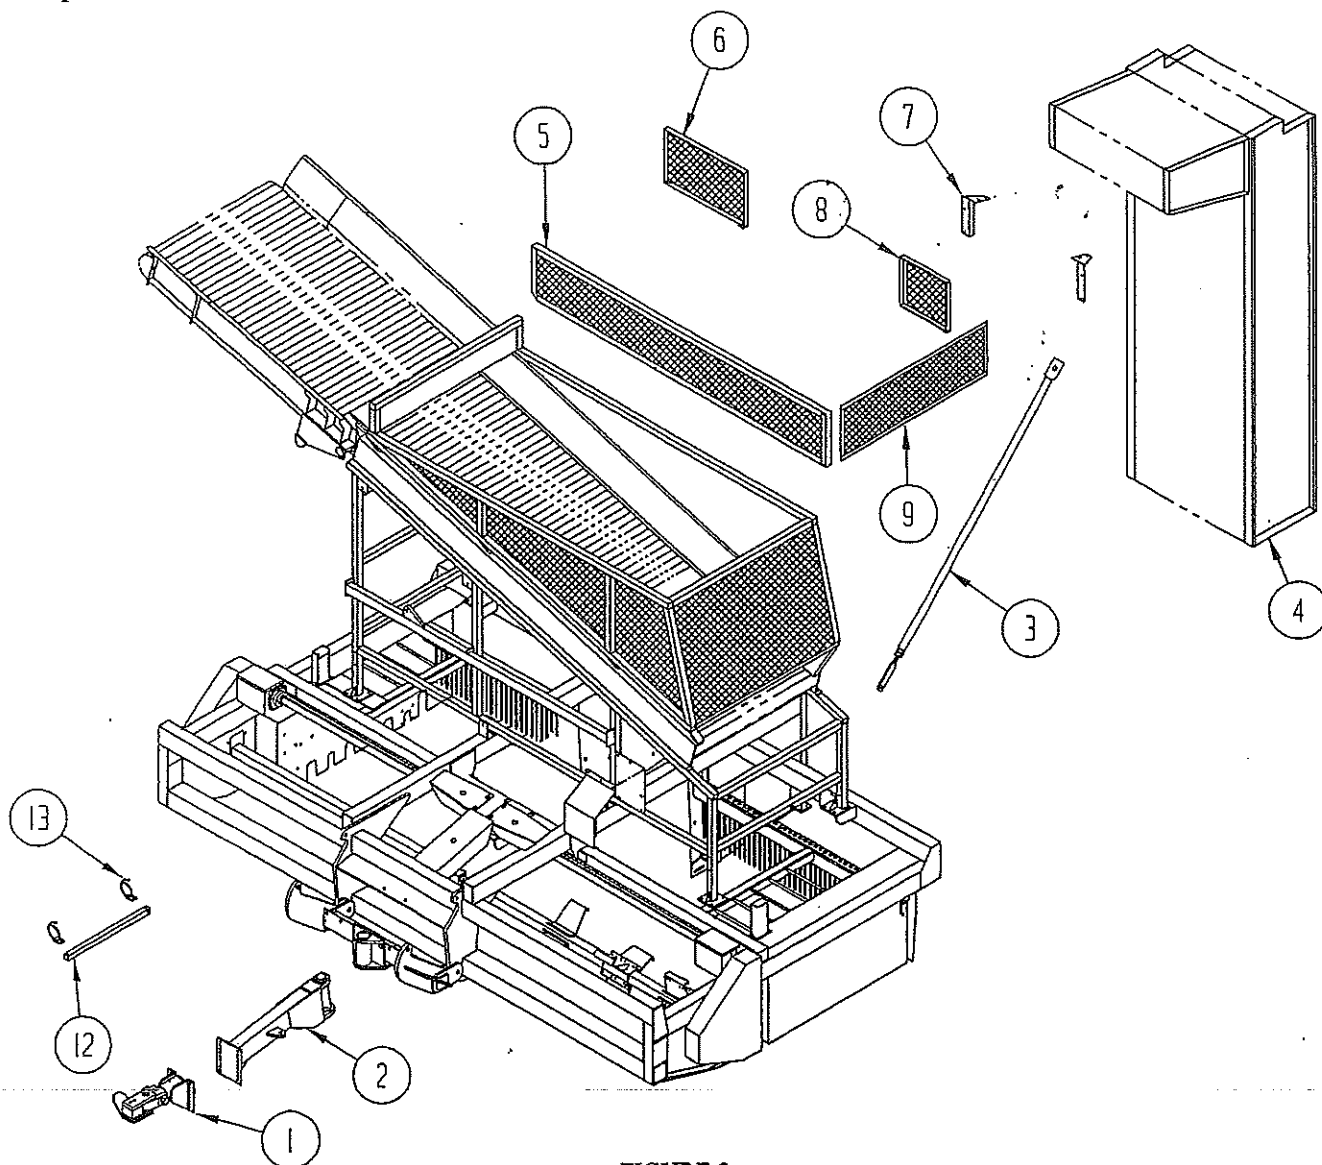

FIGURE 2
Step 5: With the use of a fork lift or other suitable means of lifting, lift the rear elevator into place and attach lower support angles (Item #5, Figure 2) to main frame using (8) 5/8 x 3 hex bolts, nuts, lock & flat washers. Do not completely tighten the nuts at this time.
Step 6: Attach the top elevator mounting brackets (Item #7, Figure 2) to the hopper and then bolt the elevator discharge panels to these brackets. Now, **after re-checking to be sure the elevator frame is still square**, tighten all bolts and nuts securely.
Step 8: Install the support rod assembly (Item #3, Figure 2.) on the right hand side of the frame using (2) 5/8 x 1 3/4 hex bolts, hex nuts and lock washers.
Step 9: Install all hopper railings (Items #5, #6, #7 & #8, Figure 2).
Step 10: Install the tongue assembly (Item #2, Figure 2) and the heavy-duty swivel hitch